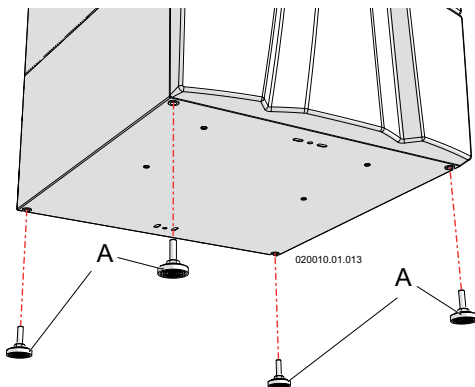

Figure 6-5 Install leveling feet
6. Install the leveling feet and plumb the unit accordingly (see Figure 6-5);